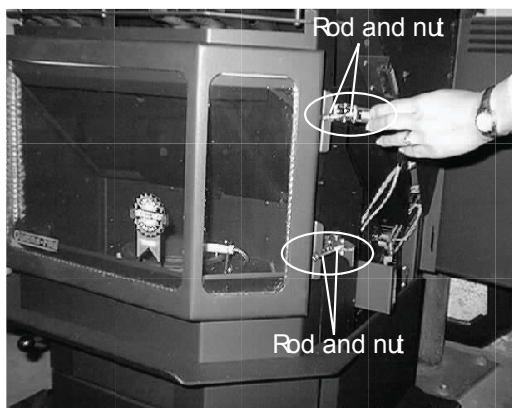

Figure 22.2
3. Latch must close tightly enough to ensure an airtight seal between the door and the body of the appliance. To increase tension on the latch, turn the rod clockwise a few turns, then attempt to close the latch, until it is snug. Do not overtighten; you should be able to close the latch with your hand. **Figure 22.2.**